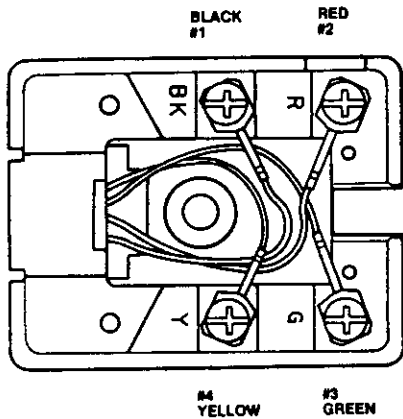

FIGURE 4-62 4-PIN MODULAR JACK
- d. Each KT comes with a 4-pin full modular cable that connects the station to the house wiring modular jack. The system uses 4-pin modular jacks (RJ11C/W). Six-pin jacks may also be used. When using 6-pin modular jacks, the pins on each end (pins connected to the white wire and blue wire) are unused. Modular jack pin numbers are given in Table 4-R, using industry standard quad (4 cond) type cable, and the 4-pin modular jack is shown in Figure 4-62.